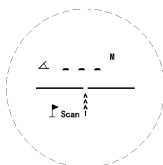
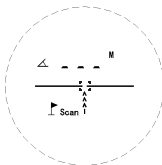
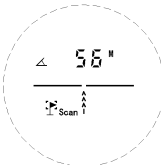
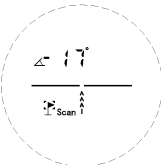

Fig. 5.3
Fig. 5.4
Fig. 5.5
Fig. 5.6
2. Press down the OPEN button. The lens will display the last mode selected when the Laser Range Finder shutdown. Keep pressing the MODE button till you reach the Slope and Angle Measurement Mode (see Fig. 5.3). Aim the Laser Range Finder at the desired object. Hold down the OPEN button and the crosshairs will start flashing (see Fig. 5.4). Once the Laser Range Finder finds a suitable reflecting object in measuring distance, the measuring distance will appear up above the crosshairs and a solid dotted box will appear around the flag of the flagpole (see Fig. 5.5). This means that the slope distance and angle has been identified for the object and the value has been locked. Gradually point the Laser Range Finder at different objects. Once the Laser Range Finder detects a closer reflecting object, it will then replace the existing distance and angle values with the new values. You can release the OPEN button once you are done with the measurements or the Laser Range Finder will remain in Slope and Angle Measurements Mode for a maximum period of 30 seconds at the most, it cannot keep scanning in this mode for longer than this. After this time, the Laser Range Finder will stop scanning and the crosshairs will stop flashing. The display will read the lowest measured slope distance (see Fig. 5.5) recorded followed by the slope angle (see Fig. 5.6) for that object. The distance and angle will keep switching back and forth till the Laser Range Finder shuts down.